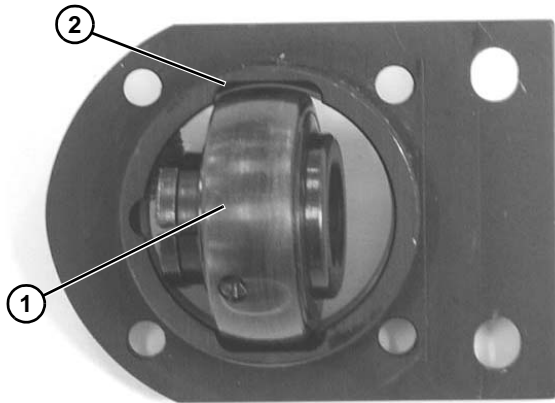

Figure 43
1. Turn bearing (**Figure 43, item 1**) to align with slots (**Figure 43, item 2**) in bearing housing. Then remove bearing.